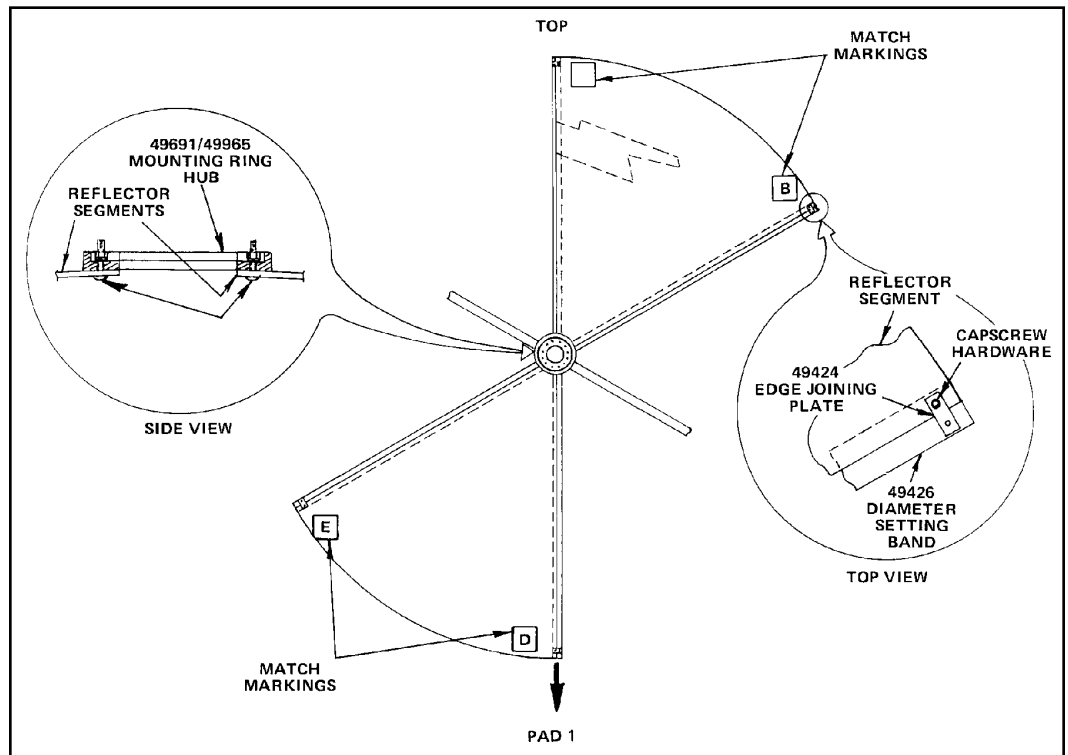

Figure 23
Step 5 Loosely attach reflector segments **A-B** and **D-E** to diameter setting bands (P/N 49426) with edge joining plates (P/N 49424) and capscrew hardware as shown in Figure 23.